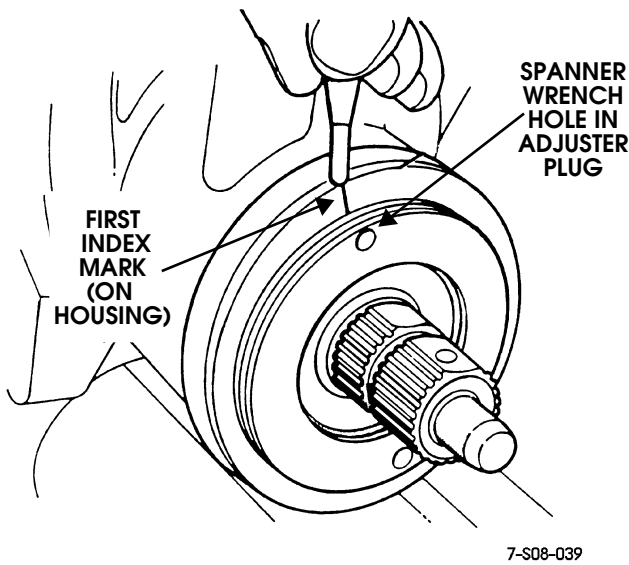

Figure 8-66: Placing First Index Mark On Housing
5. Scribe an index mark on gear housing in line with one of the adjuster plug spanner wrench holes (Figure 8-66). This will be the first index mark.